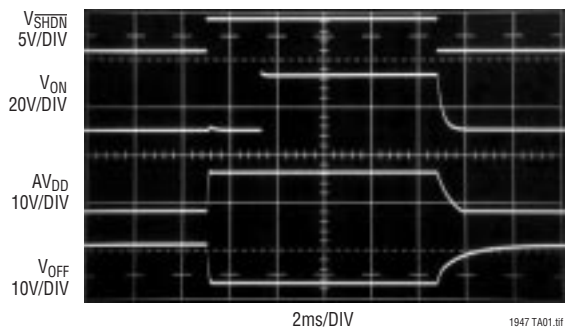

Figure 1. 3.3V Powered TFT-LCD Bias Generator
**SW1 (Pin 4):**  $AV_{DD}$  Switch Node. Connect L1 and D1 here (see Figure 1). Minimize trace area at this pin to keep EMI down.